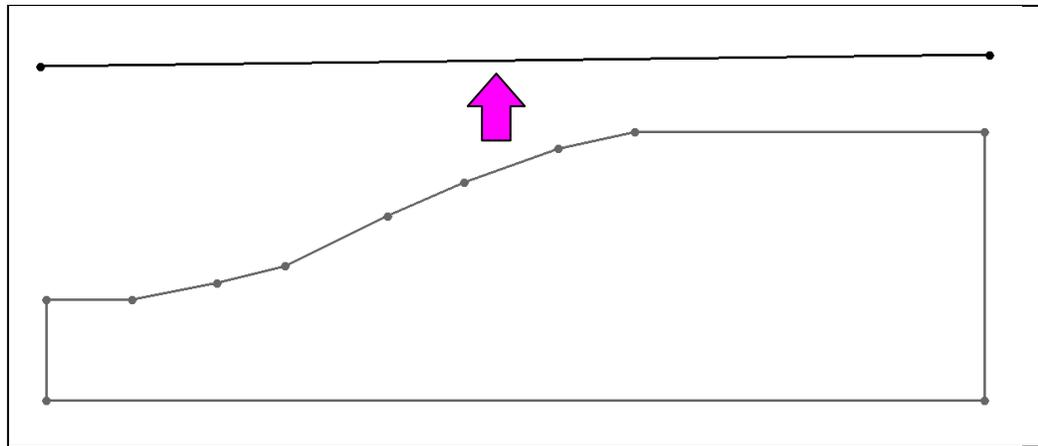

Figure 4. The Initial Piezometric Line.
2. Create a new arc above the model, as shown in Figure 4 below. Don't worry about the exact location of the arc as we'll reposition it in the next steps.